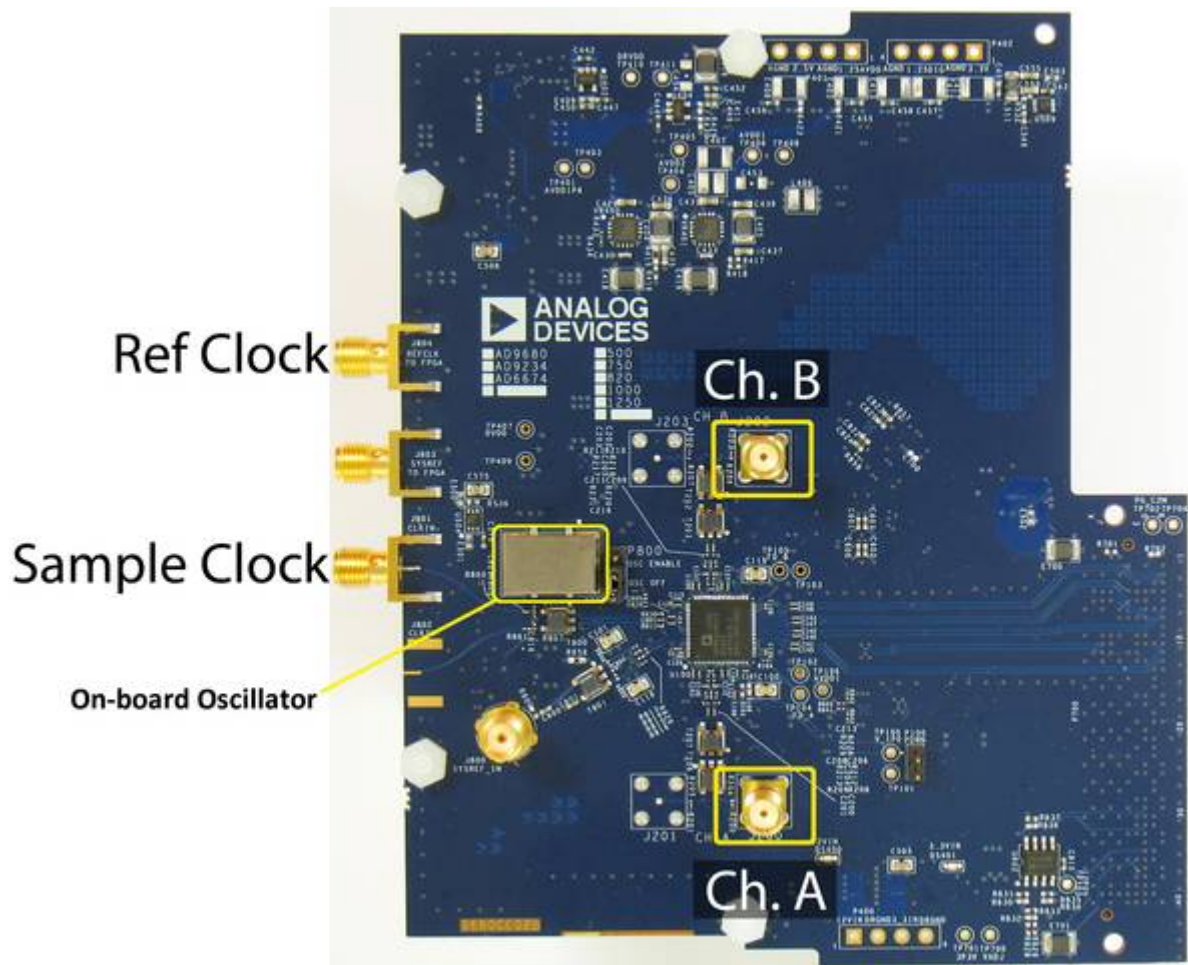

Figure 2. AD9680/AD9234 Low Frequency Evaluation Board up to 1GHz Input Bandwidth
1. Connect the evaluation board to the ADS7-V2EBZ/ADS7-V1EBZ data capture board, as shown in Figure 2.
5. If the Device Manager does not show the ADS7-V2EBZ/ADS7-V1EBZ listed as shown in Figure 2, unplug all USB devices from the PC, uninstall and re-install SPIController and VisualAnalog and restart the hardware setup from step 1.